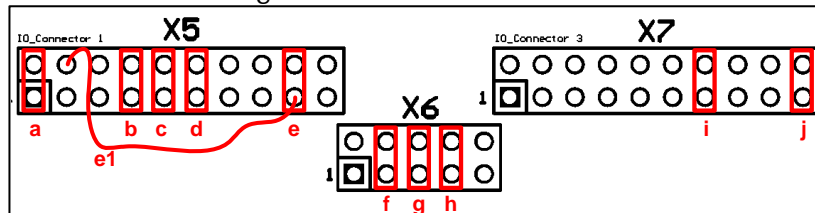

Figure 2-1: Default jumper set-up
- Verify that the default jumper setup is made according to Figure 2-1. Jumper “e” must be replaced by cable “e1” when using an iM240A.